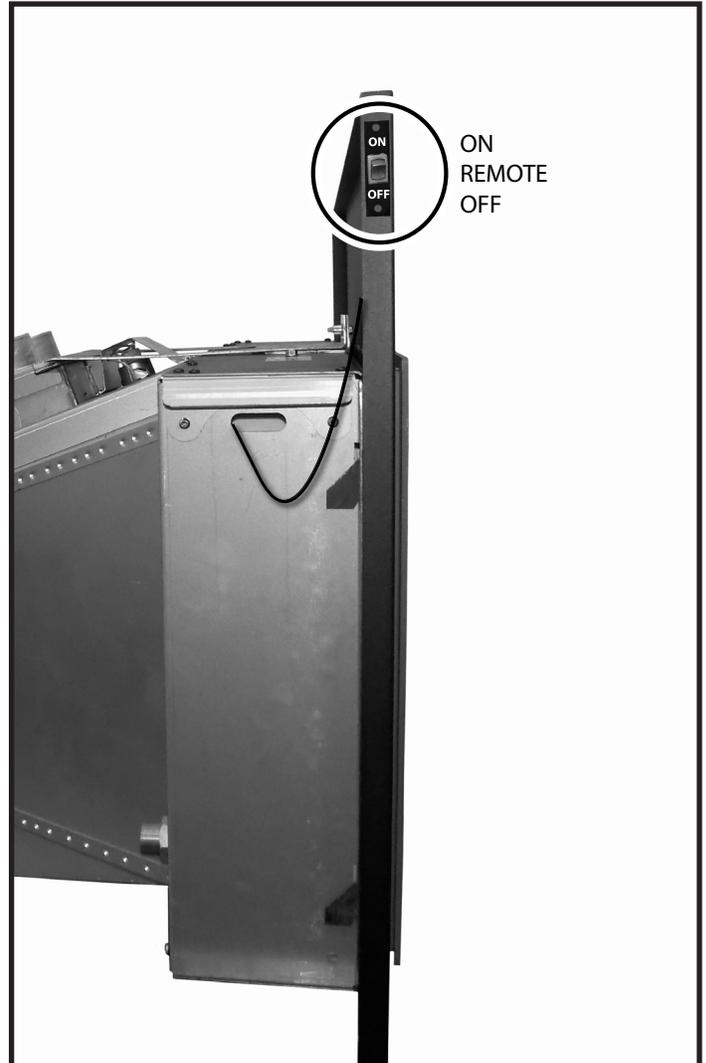

Figure 90: On Off switch for SIT units.
2. With the surround backing plate positioned in front of the fireplace, position the switch in behind the open slot in the backing plate and screw into place (Figure 90).